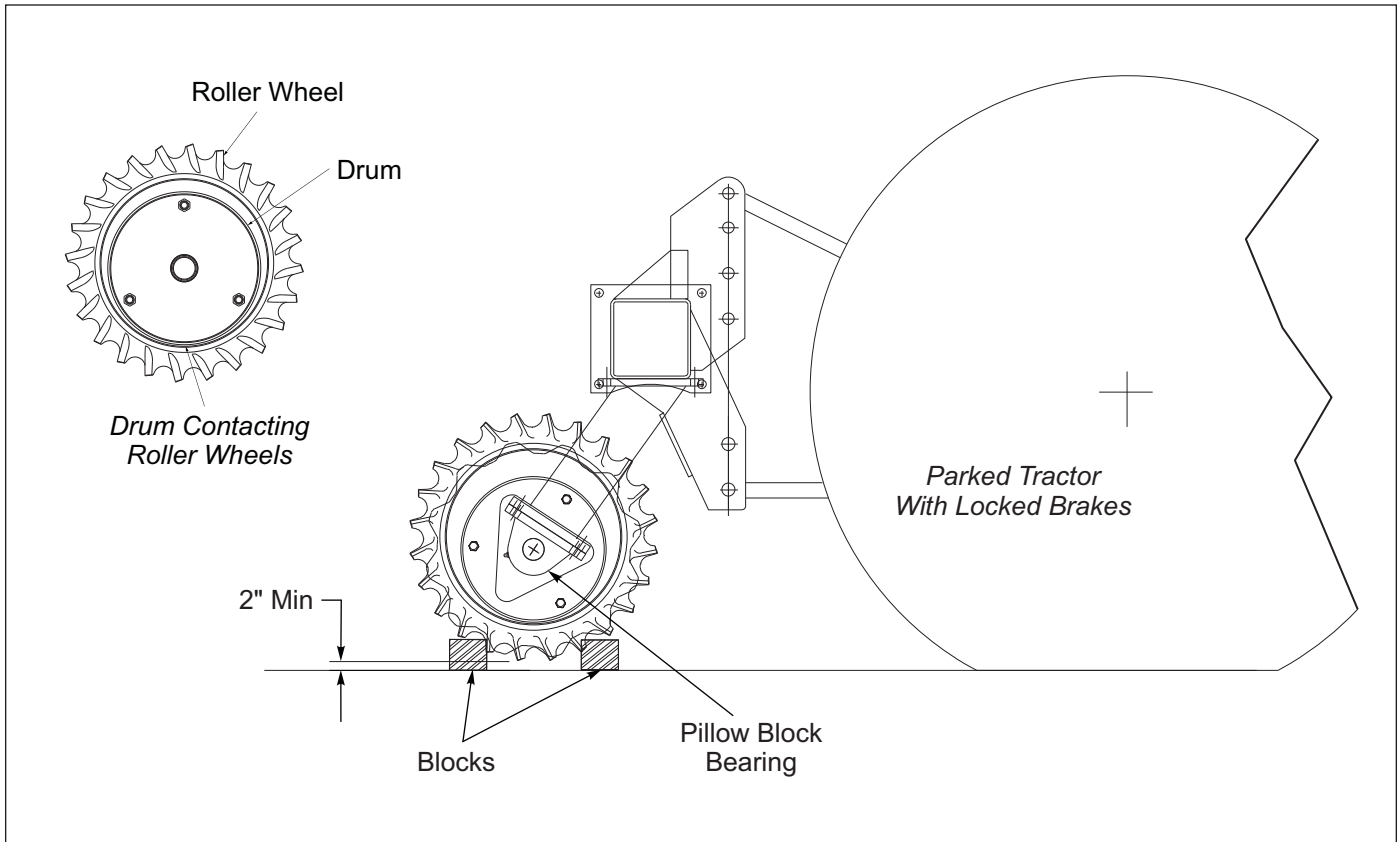

Figure 4-3: Replacing or Adding Roller Wheels - Detail
1. Attach tractor to the Pulverizer. Raise the Pulverizer to the transport position. With the pulverizer in the transport position, slide all the wheels toward one end of the drum. Lower the machine so that the roller wheels rest on blocks approximately two inches off the ground. **See Figure 4-3.** Continue to lower the machine until the outside of the roller drum contacts the bottom ring of the roller wheels.